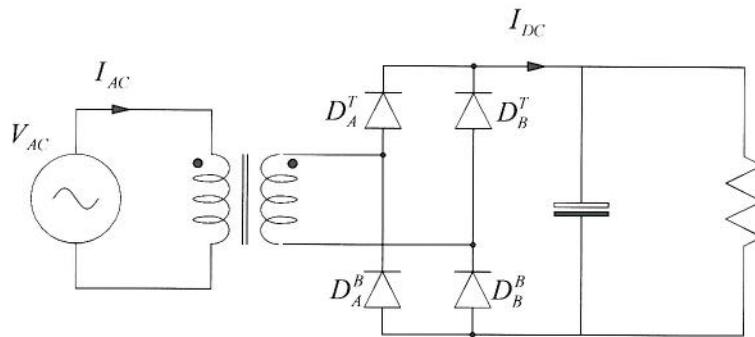

Figure Q3.1 A single-phase diode rectifier
- (a) Explain why a diode rectifier of the type shown in Figure Q3.1 has a low power factor [3]